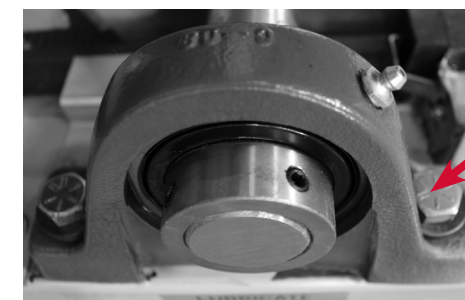

FIGURE 13. Inspect bearing collar to ensure all bolts and screws are tight.
- 5) Inspect the bearing bolts, rim bolts, and the Allen screws on the bearing collar to ensure that all are tight (See **FIGURE 13**). Tighten any loose screws and bolts according to torque values described in the FläktGroup SEMCO **ENERGY RECOVERY WHEEL OWNER'S MANUAL***.